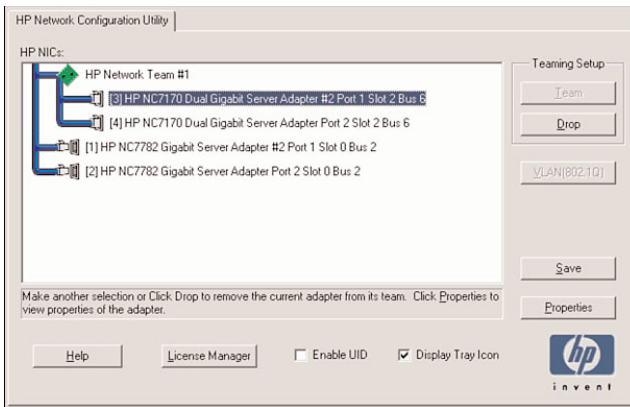

FIGURE 21.7 An unambiguous GUI can help clear up otherwise complicated multi-NIC teaming configurations.
- ▶ If multiple NIC teams are configured (for example, in the case in which redundant connections are preferred to both the public network and the management network), it is important to ensure that the MAC address of the first team represents the primary address of the server. The primary address of the server thus maps back to its name on the public network. This sounds a bit complicated, but Figure 21.7 will help you make sense of it. Here, HP Network Team #1 represents the public team. Furthermore, the MAC address of NIC #1 of this team is the MAC address “seen” by other servers. In this way, both name resolution and failover work as expected.